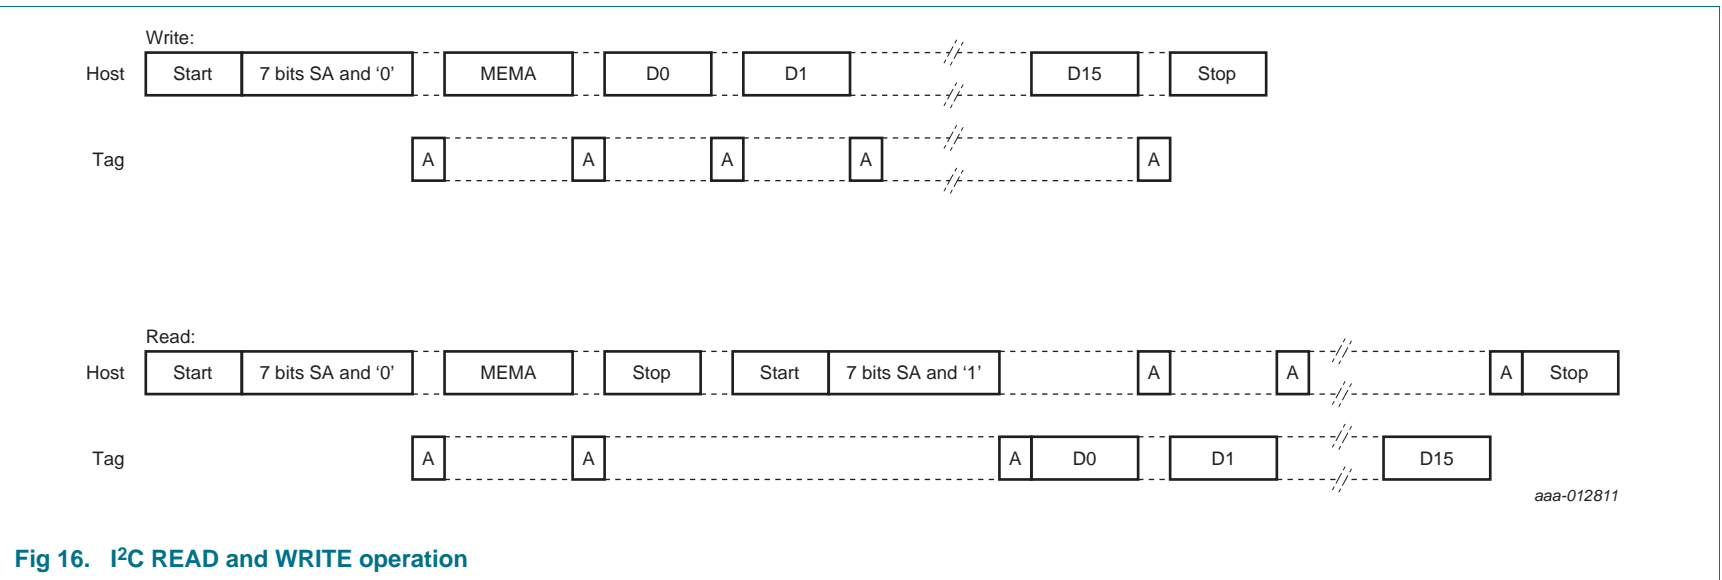

Fig 16. I2C READ and WRITE operation
For the READ operation (see Figure 16), following a Start condition, the bus master/host sends the NTAG I2C slave address code (SA - 7 bits) with the Read/Write bit (RW) reset to 0. The NTAG I2C acknowledges this (A), and waits for one address byte (MEMA), which should correspond to the address of the block of memory (SRAM or EEPROM) that is intended to be read. The NTAG I2C responds to a valid address byte with an acknowledge (A). A Stop condition can be then issued. Then the host again issues a start condition followed by the NTAG I2C slave address with the Read/Write bit set to 1b. When I2C\_CLOCK\_STR is set to 0b, a pause of at least 50  $\mu$ s shall be kept before this start condition. The NTAG I2C acknowledges this (A) and sends the first byte of data read (D0). The bus master/host acknowledges it (A) and the NTAG I2C will subsequently transmit the following 15 bytes of memory read with an acknowledge from the host after every byte. After the last byte of memory data has been transmitted by the NTAG I2C, the bus master/host will acknowledge it and issue a Stop condition.
For the WRITE operation (see Figure 16), following a Start condition, the bus master/host sends the NTAG I2C slave address code (SA - 7 bits) with the Read/Write bit (RW) reset to 0. The NTAG I2C acknowledges this (A), and waits for one address byte (MEMA), which should correspond to the address of the block of memory (SRAM or EEPROM) that is intended to be written. The NTAG I2C responds to a valid address byte with an acknowledge (A) and, in the case of a WRITE operation, the bus master/host starts transmitting each 16 bytes (D0...D15) that shall be written at the specified address with an acknowledge of the NTAG I2C after each byte (A). After the last byte acknowledge from the NTAG I2C, the bus master/host issues a Stop condition.